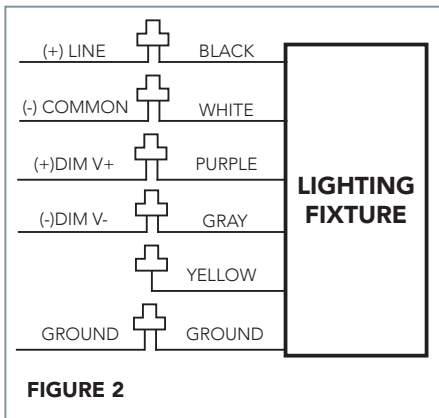

FIGURE 2
2. REMOVE REFLECTOR Loosen two screws enough to allow reflector to slide downward to remove reflector (FIG.2)
Universal voltage driver permits operation at 120V through 277V, 50 or 60 Hz. For 0-10V Dimming, follow the wiring directions as in figure 2